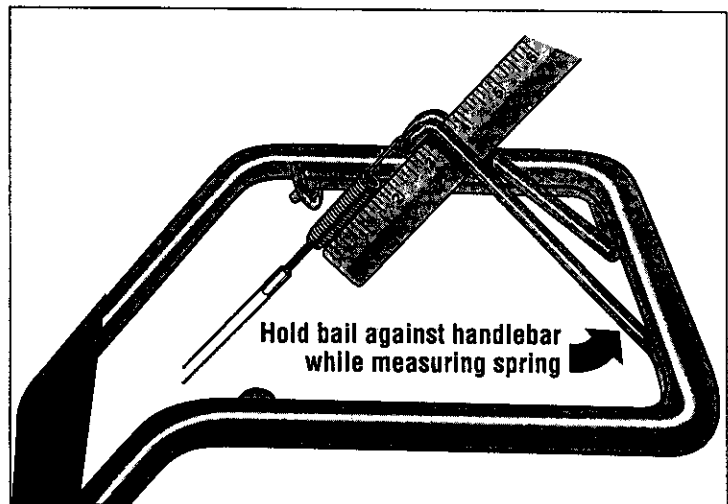

Figure 2-6: Measure cable spring.
7. Lift and hold the forward clutch bail against the handlebar. See Figure 2-6.
8. Measure the distance between the coils of the cable spring (Figure 2-6). The length should be approximately 1-7/8". If the length is incorrect, you will have to make an adjustment to the cable tension as described in "Checking and Adjusting Belt Tension" in the "SERVICE and ADJUSTMENTS" section.